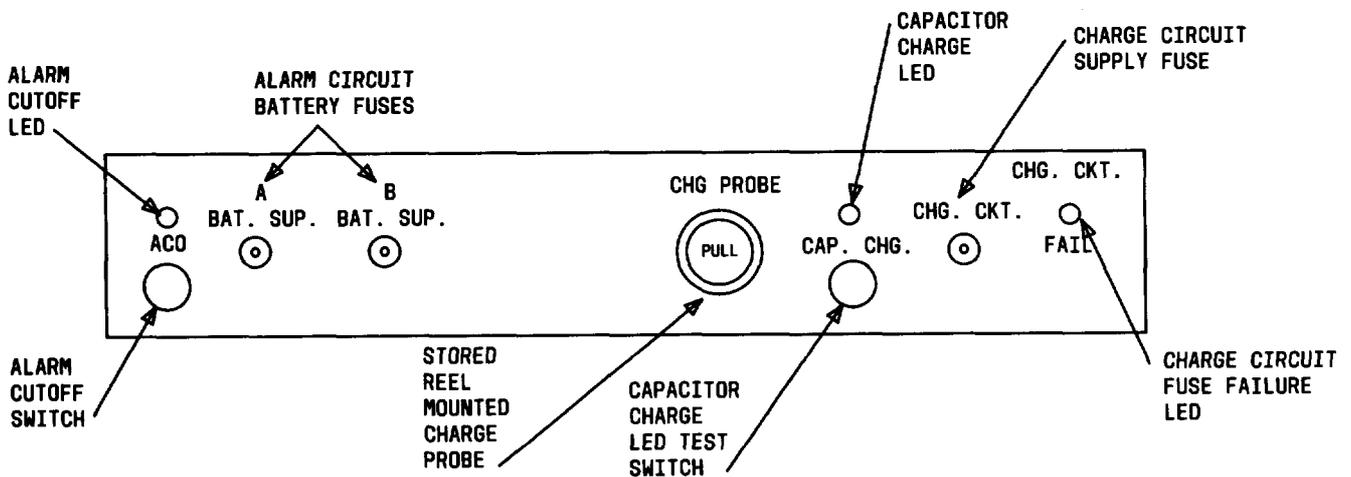

Fig. 3—Control Panel Assembly
2.05 The control panel consists of LED indicators, control panel wiring, circuit board protection fuses, an alarm cut-off switch (ACO), a CAP CHG TST switch, and two printed circuit boards, CM1 (charge circuit board), and CM2 (alarm circuit board). Refer to Table B for a complete list of controls, indicators, and fuses. A charge probe, CP1, is mounted on the front of the control panel (see Fig. 3). The control panel is powered by two separate battery supplies, each of which is fused at the input to the control panel.
- (1) Remove all fuses from the fuse panel.
- (2) Connect battery power to the panel input bus.
- (3) Remove the charge probe CP1 (see Fig. 3) from the recessed storage location as follows: